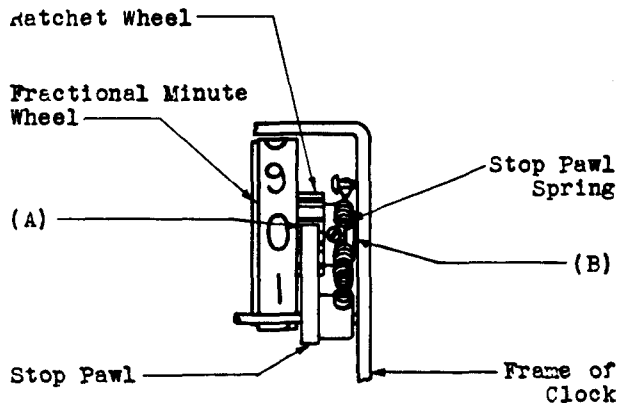

Fig. 3
**2.09 Position of Stop Pawl:** Fig. 3(A) — The stop pawl shall drop into its normal position behind each tooth of the ratchet wheel.
**2.10 End Play:** Fig. 3(B) — The end play between the fractional minute wheel hub and the frame shall be